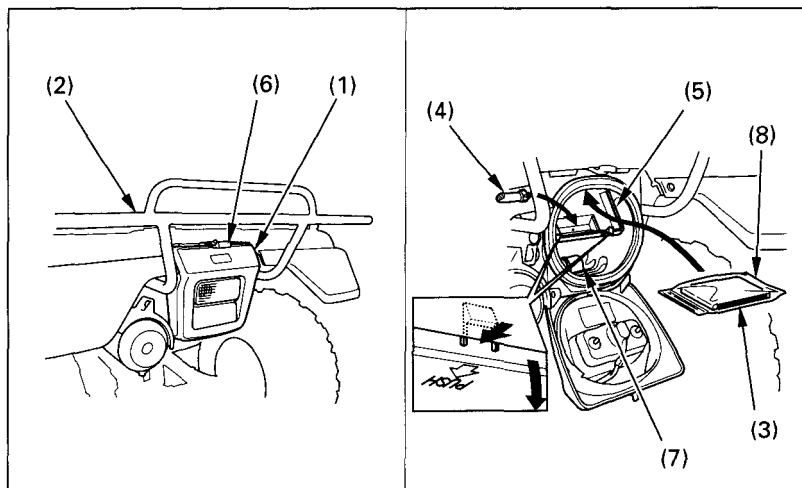

Fig. 2-31
The storage compartment (1) (Fig. 2-31) is below the rear cargo rack (2).